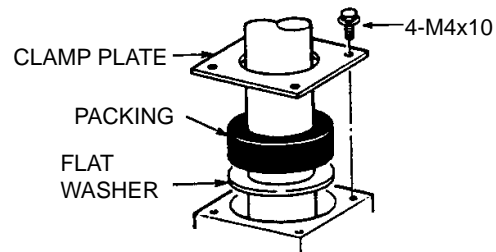

Figure 6-13 Passing the signal cable through the antenna housing
5. Connect the lead wires to RTB-9100 in the antenna housing by referring to the Interconnection Diagram. Fasten the ground washer at the bottom of the antenna housing as shown in Figure 6-13.
3. Now is the time to fix the radiator to the radiator bracket. Apply anticorrosive sealant (silicone sealant) to hatched areas, to prevent corrosion. See the figure below. Apply silicone sealant into threaded holes on the scanner radiator. Remove the cap on the radiator bracket and orient the radiator bracket as shown in Figure 6-13. Apply grease to the O-ring and set it to the center of the radiator bracket. Coat the radiator fixing bolts with silicone sealant. Fasten the radiator to the radiator bracket with the **FURUNO** logo on the radiator facing ship's bow.